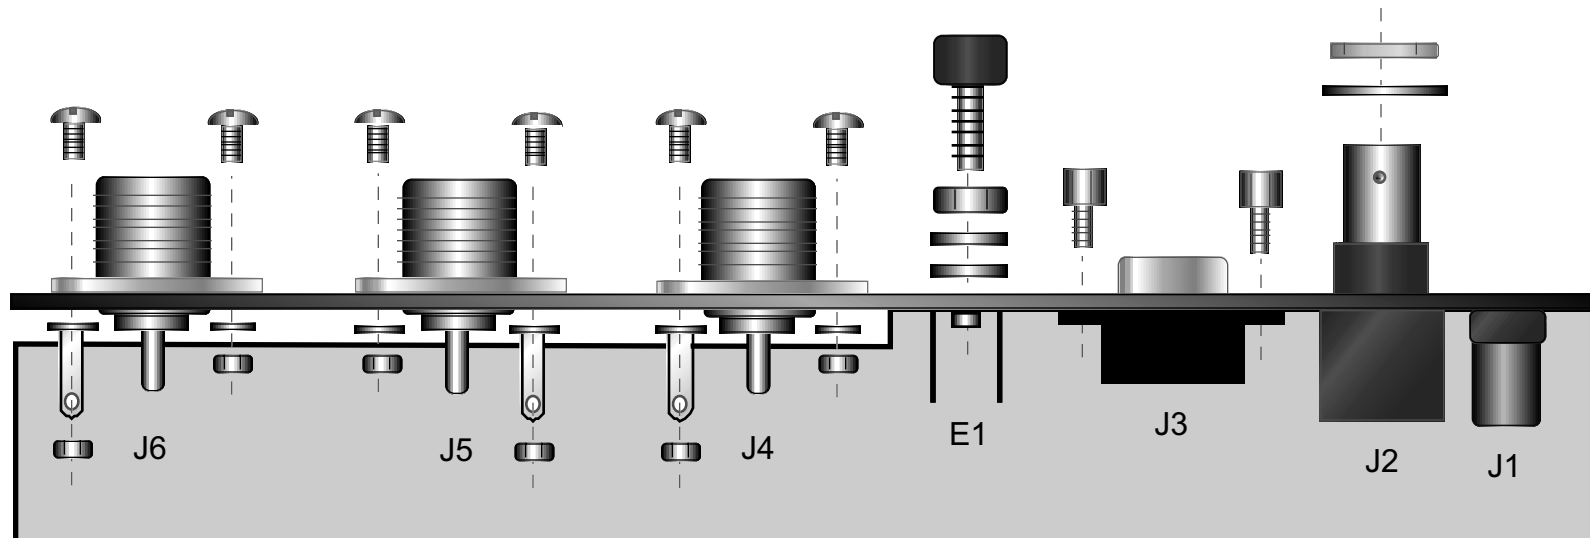

Figure 13
Unwrap the rear panel piece, and place it with the labeling facing away from you. Review Figure 13, which shows the vertical portion of the panel, along with all of the panel- and PCB-mounted connectors. Do not attach the rear panel to the RF board at this time.
- Secure E1 (ground terminal) to the rear panel with the 6-32 thumbscrew, 6-32 nut, and two #6 flat washers (Figure 13). The nut must be installed between the washers and thumb screw as shown to ensure good electrical contact.
- Secure J3 (9-pin D connector) to the rear panel using two male-female standoffs (see Figure 13). **Do not overtighten the standoffs, as they can easily be stripped.**